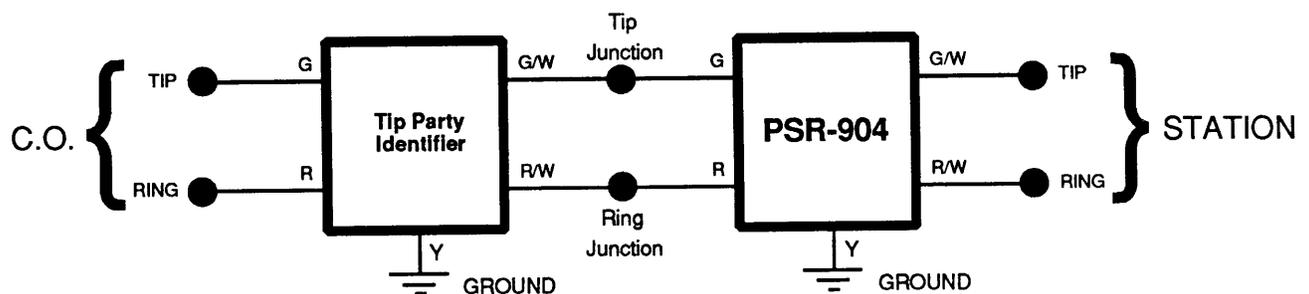

Fig. 2—Block diagram showing PSR-904 wired in conjunction with a Tip Party Identifier
3.06 If installing the PSR-904 in conjunction with a Tip Party Identifier device (such as the Keptel ANI-911 or DNI-910), refer to Figure 2.